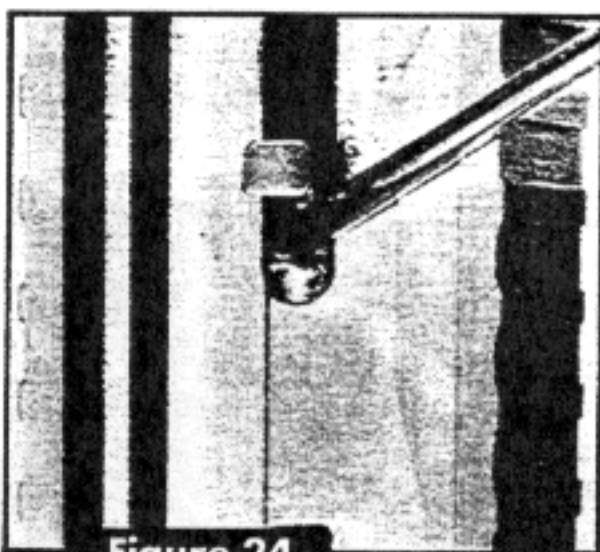

Figure 24
- To aid in the removal of the slide cover plate, place the muzzle end of the slide on a smooth, flat surface such as a table. Keep the slide in an upright position while applying firm downward pressure on the slide. With your free hand use a pin punch to push the spacer sleeve forward (Figures 24 & 25).